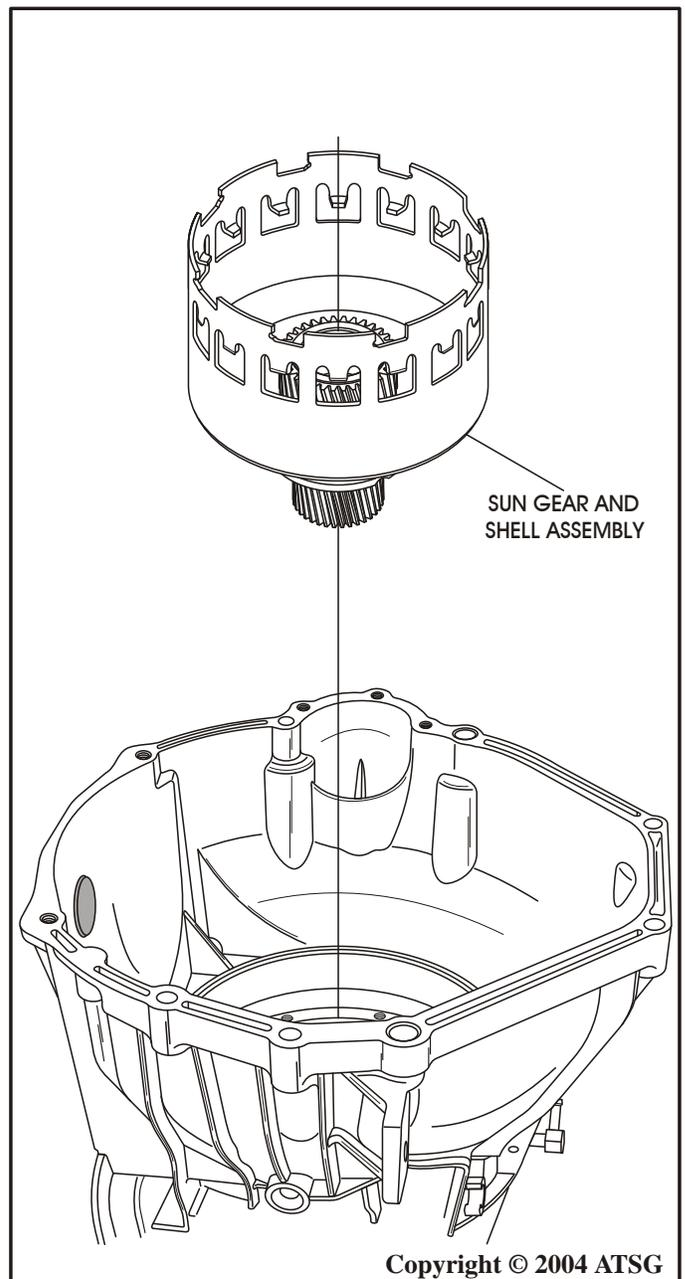

Figure 46
47. Remove the sun gear and shell assembly, as shown in Figure 46.